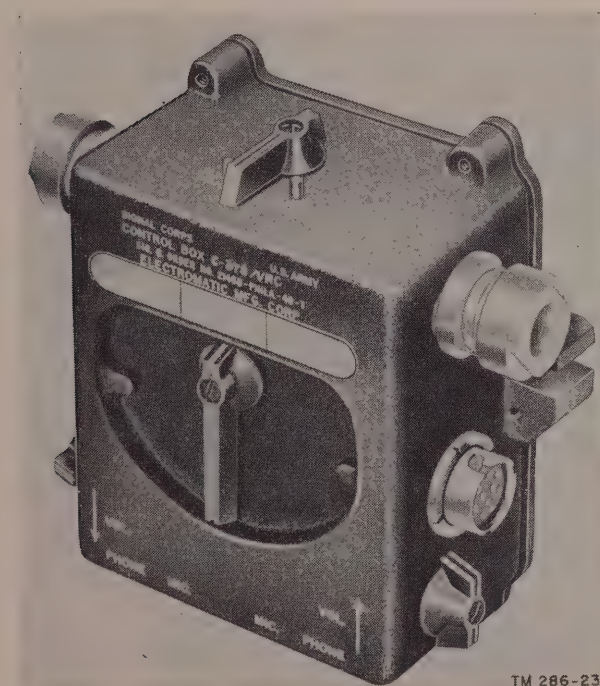

Figure 9. Control Box C-375/VRC, right oblique view.
a. One or more Control Boxes C-375/VRC (fig. 9) are used in every installation for push-to-talk control of the radio sets. One unit is supplied with the basic radio set (par. 6); additional units may be supplied in the installation kits (par. 7).
b. The control boxes are normally installed at a distance from Mounting MT-327/GR (in locations convenient for driver, gunner, commander, or another operator) and are connected to the mounting either directly or indirectly by means of Special Purpose Cable WM-46/U. Cable entries are provided at either side of the control box (fig. 9). The cable connection extends the audio and control lines of the receiver-transmitter and the audio line of the auxiliary receiver to the switches on the control box. The switches connect these lines to the audio connectors on either side of the box and to the MIC. and PHONE jacks on the bottom of the box (fig. 34). Suitable audio accessories can be connected for monitoring or push-to-talk control of the radio sets.